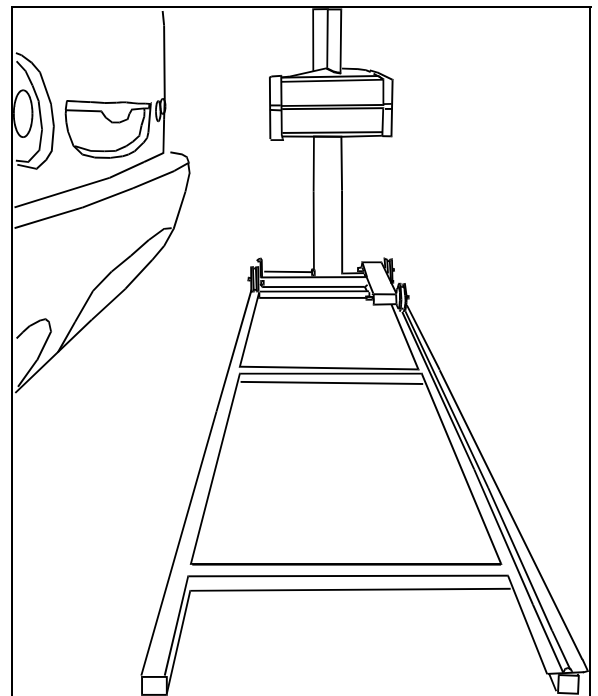

FIGURE 38: INSTALLATION OF HOOPY 100 ALIGNER
5. Install "Hoopy 100" Aligner onto support rail (Fig. 38).
3. Install "Hoopy 100" Aligner onto support rail (Fig. 38). Turn aligner ON.